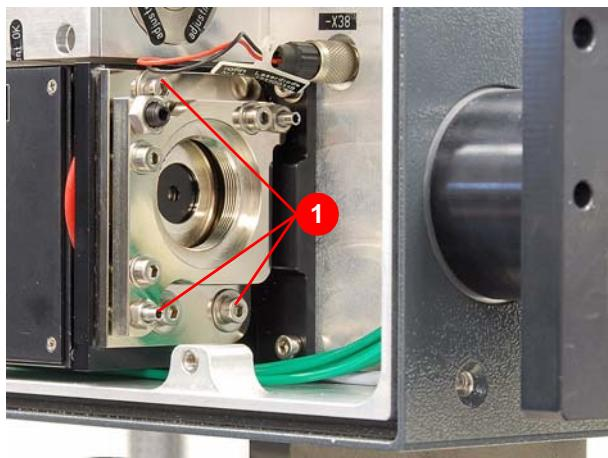

Figure 6.38 Fitting the beam expander mount
36. Loosen the screws (1) (Figure 6.38).